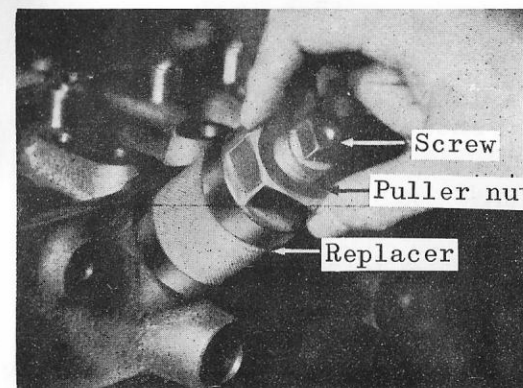

Fig. 4-50
- (4) Turn loose the nut on the wrench with the wrench and then, remove the fixing screw and lock plate.
- (5) Turn the screw on the pre-combustion chamber replacer (8521-0076) all way into the pre-combustion chamber. (See Fig. 4-50)